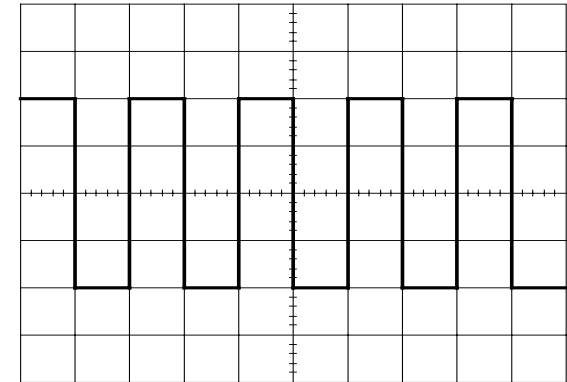

Figure 4-3
- 5) Set the AC-DC-GND switch to the AC state. A waveform as shown in the figure 4-3 will be displayed on the CRT screen